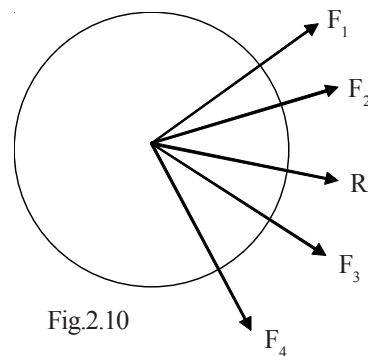

Fig.2.10
- b) **Resultant force:** When a system of forces acting on a body are replaced by a single force which produces the same effect of all the forces put together is called as resultant force. Let $F_1, F_2, F_3,$ etc., are the forces acting on a body. R is the resultant of all the forces which cause the same effect. The body has a tendency to move in the direction of the resultant force.(Fig.2.10).